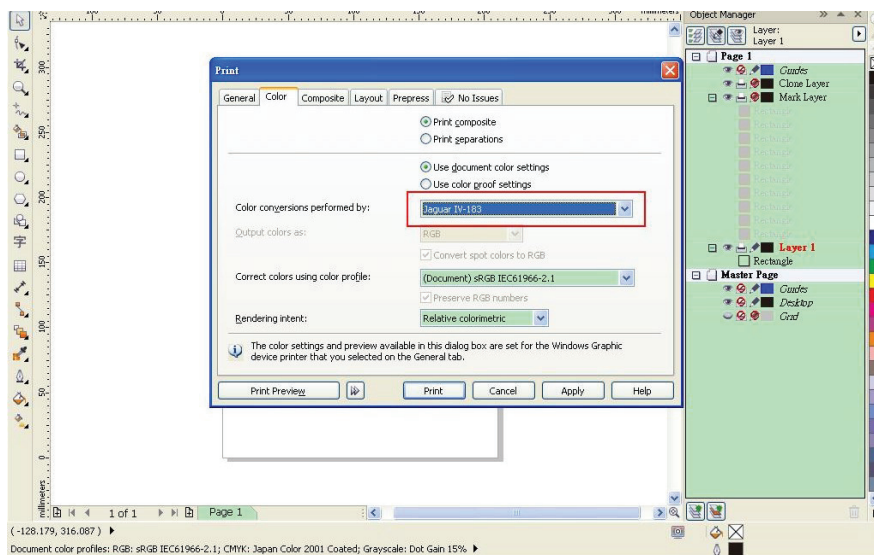

Figure A3-14
**Step 1** Click the “color” page and go to the “Color conversions performed by:” and then select the model name of you cutter (please refer to Figure A3-14).